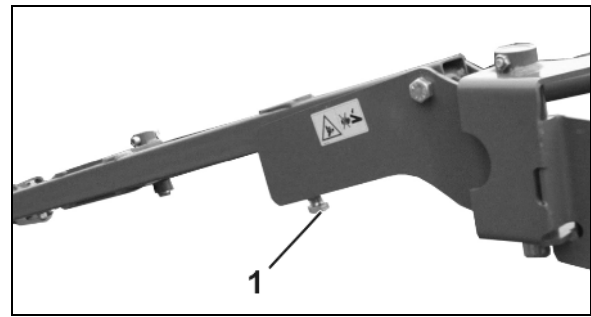

Fig. 101
1. Undo both screw unions (Fig. 101/1) on a roller.